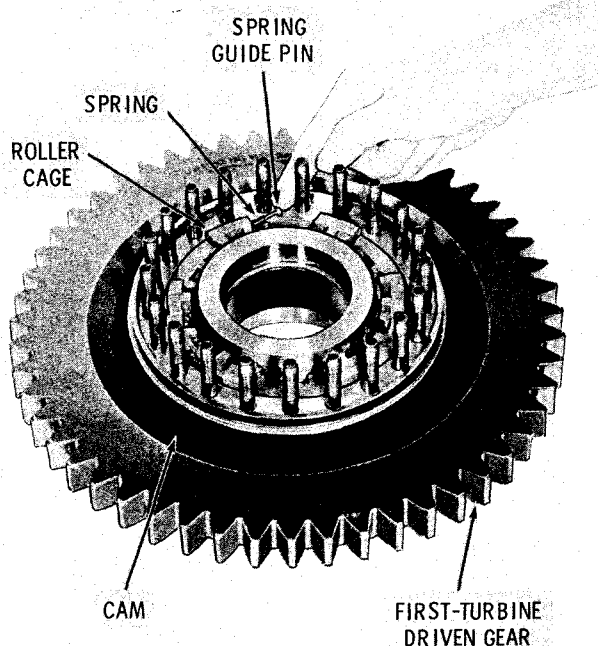

Fig. 6-18. Installing spring and guide pin into roller cage
(5) Install three springs and guide pins into the drilled ears of the roller cage (fig. 6-18).